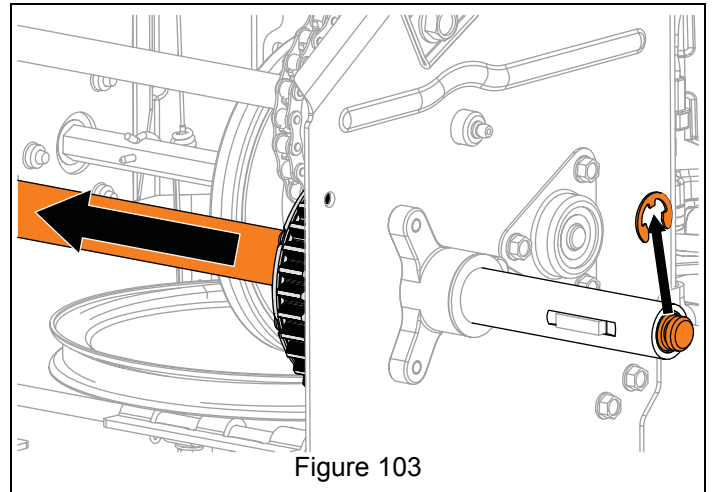

Figure 103
4. Align differential gear with pinion gear and short axle. Reinstall short axle into differential. See Figure 103.